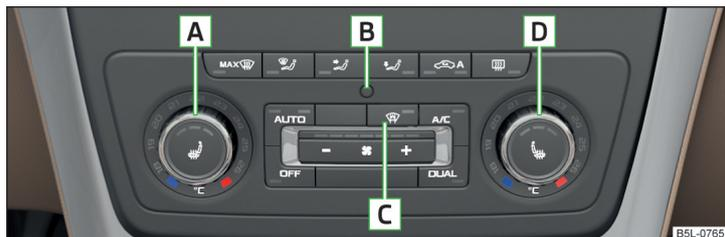

Fig. 113 Controls the Climatronic
Functions of the individual controls » Fig. 113
The temperature **for both sides**, is set by turning the knob **A** » Fig. 113 (the indicator light in the button **DUAL** is not illuminated).
- Do not stick anything onto or cover the interior temperature sensor  » Fig. 113 as this could impair the functioning of the Climatronic.